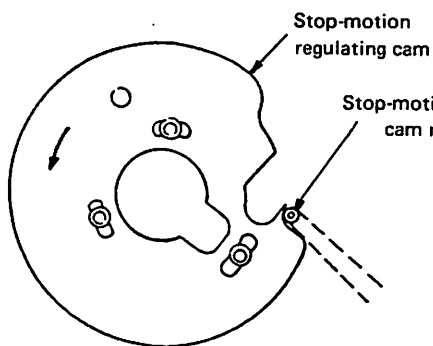
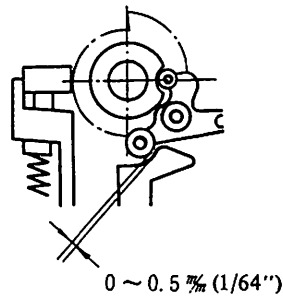
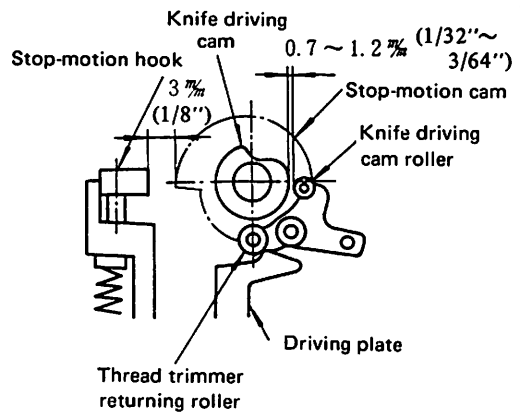

Fig. 7
Fig. 9
Fig. 8
<p>1) Turn the main shaft by hand to obtain the state shown in Fig. 7. (low-speed running)</p> <p>2) Remove the spring ② and spring ③.</p> <p>3) Loosen screw ①, and perform adjustment to allow a 3 mm (1/8") clearance between the stop-motion hook and the knife driving cam.</p> <p>(Caution) When tightening screw ①, be careful not to cause excessive axial sticking.</p> <div style="display: flex; justify-content: space-around; align-items: center;">   </div> <p style="text-align: center;">Fig. 10 Fig. 11</p>	<ul style="list-style-type: none"> ● If the clearance is adjusted to 3 mm (1/8") or less; A neutral state will result when the machine runs at low speed, causing the machine to idle and stop. Further, the clearance of 0.7 to 1.2 mm (45/64") ~ (3/64") between the knife driving cam and the knife driving cam roller will go at the time of low-speed machine running with resultant striking noises. Also the stop-motion cam will interfere with the stop-motion hook at the time of stop motion. (Fig. 8) ● If the clearance is adjusted to 3 mm (1/8") or more; The pressure of spring ② will become too high when the machine runs at high speed, often causing the machine to idle and stop. It may also lead to inadequate torque at the start of high-speed running with consequent reduction in sewing speed. Also, the thread trimmer returning roller will interfere with the driving plate, resulting in thread trimming failure. (clearance : 0 to 0.5 mm (1/64")) (Fig. 9)